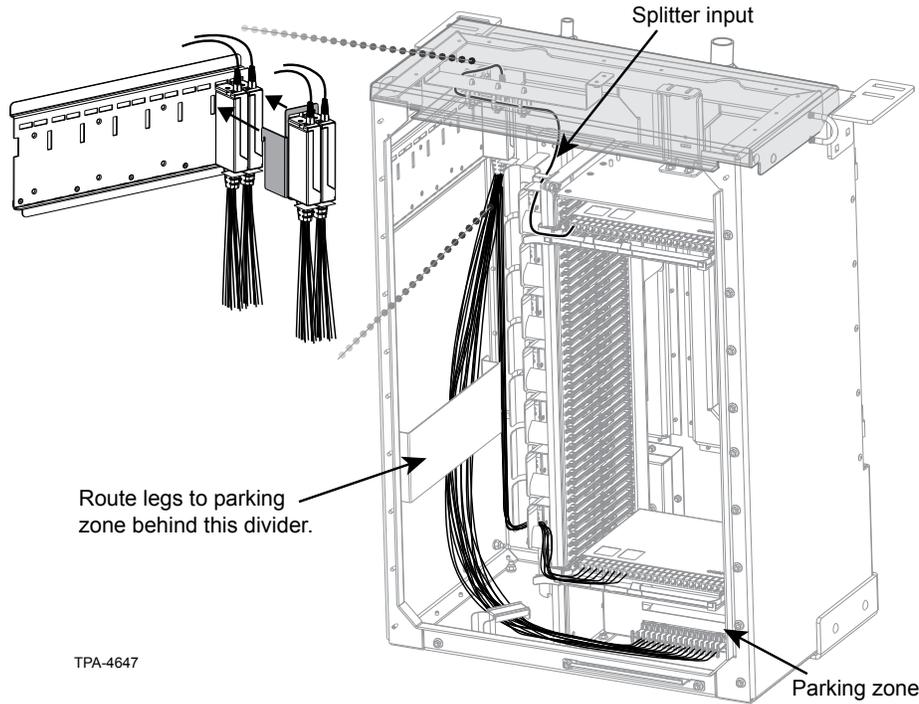

Figure 12
Step 1: Install the splitter modules in the module brackets as shown in Figure 12.
Step 4: If jumpers will not be used immediately, leave them in their storage clip. Route them to the parking zone as shown in Figure 12.